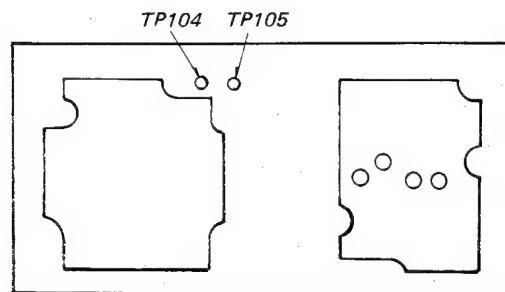

Fig. 5-86 Audio Circuit Board (PW-2108).
1. Connect the oscilloscope to TP105 on the Audio Circuit board (PW-2108). See Fig. 5-86.